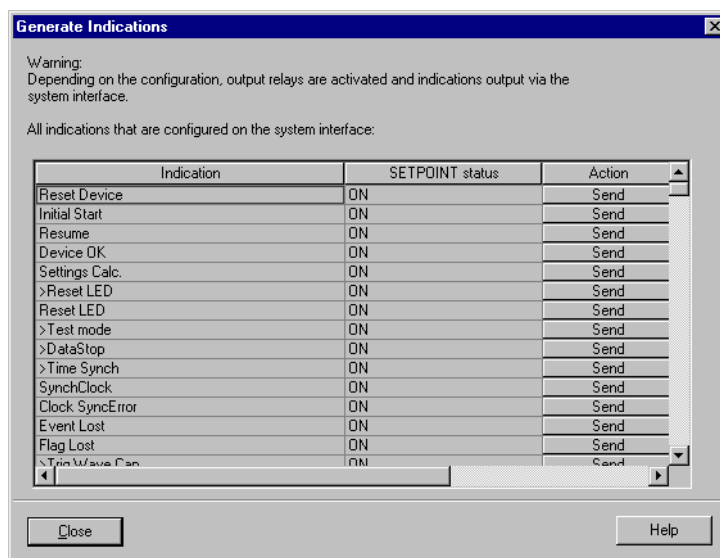

Figure 7-8 Dialog box Testing the system port – Example
- ☐ Double-click in the list **Generate Indications**. The dialog box **Generate Indications** is opened (see Figure 7-8, page 273).